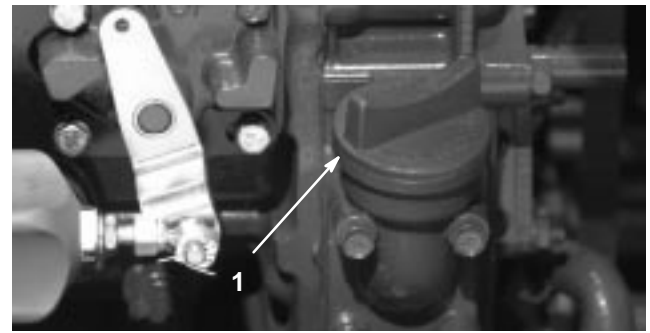

Figure 5
4. If the oil is below the FULL mark, remove the fill cap (Fig. 5) and add oil until the level reaches the FULL mark. **Do not overfill.**